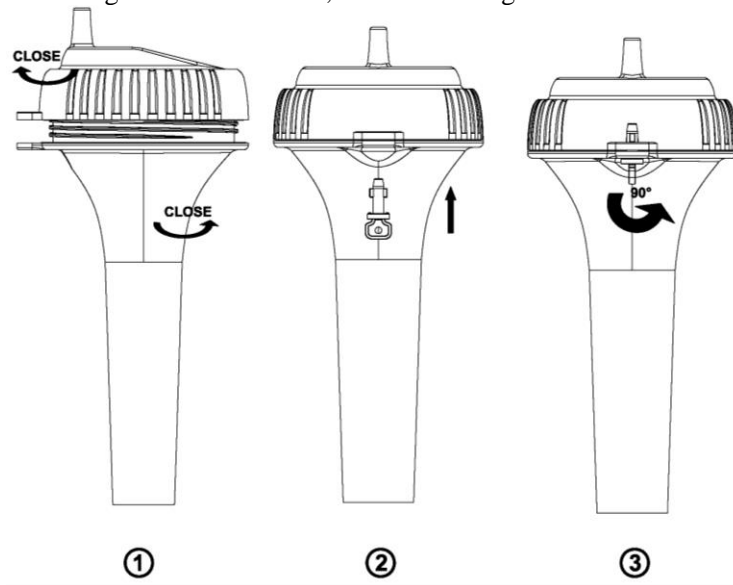

Figure 8
7. To close the lid, (1) Twist the lid until it is firmly locked and the key is aligned. (2) Insert the key and turn 90 degrees to lock the lid, as shown in Figure 8.